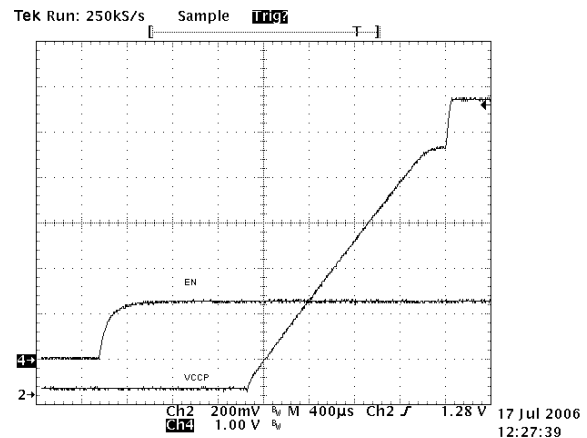

Figure 15. VR11 Startup
The controller supports two different startup routines. A legacy VR10 ramp to the initial VID code, or a VR11 Ramp to the 1.1 V VID code, with a pause to capture the VID code then resume ramping to target value based on an internal slew rate limit. See Figures 15 and 16. The controller is designed to regulate to the voltage on the SS pin until it reaches the internal DAC voltage. The soft-start cap sets the initial ramp rate using a typical 5.0 µA current. The typical value to use for the soft-start cap (SS), is typically set to 0.01 µF. This results in a ramp time to 1.1 V of 2.2 ms based on equation 1.